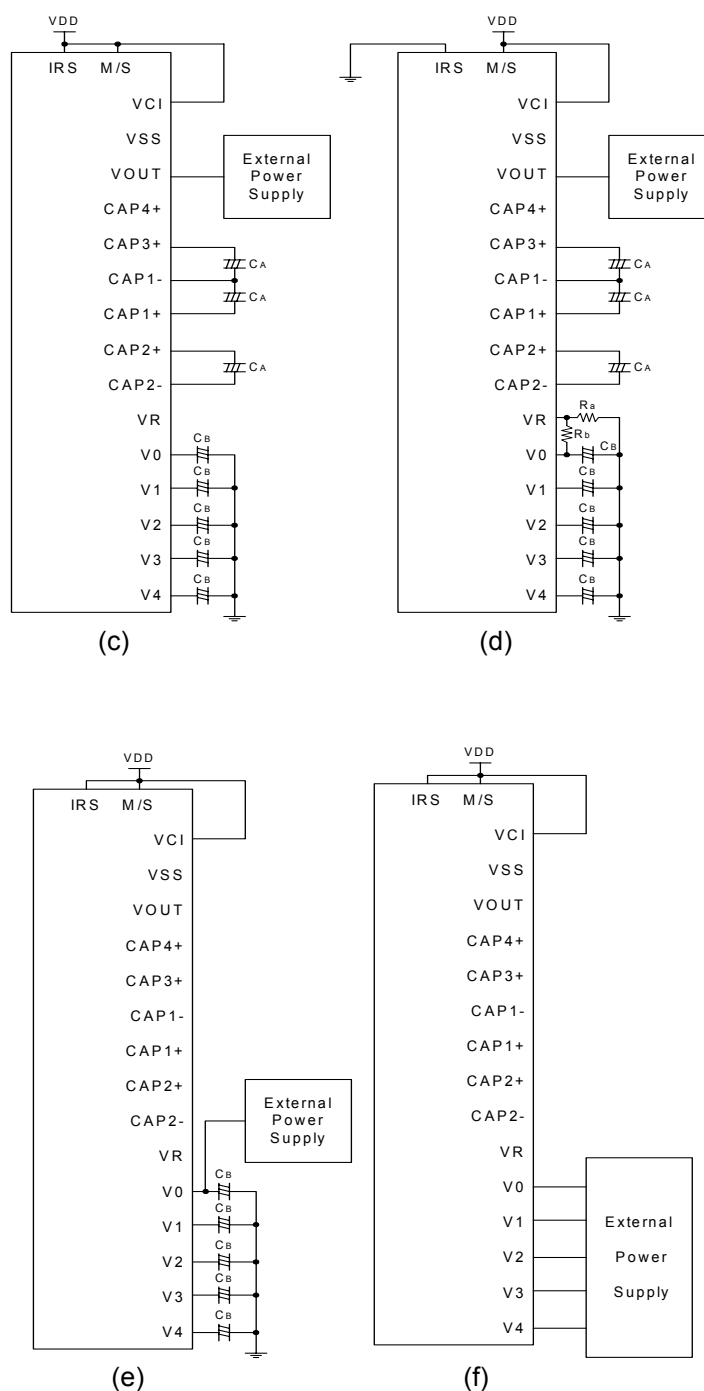

Fig. 11-(c-f) Reference Circuit Examples
Figure 11 shows the reference circuit examples:
1. When all of the step-up circuit, voltage regulating circuit, V/F circuit, and the voltage regulator internal resistor are used, as shown in Fig 11-(a).
2. When all of the step-up circuit, voltage regulating circuit, V/F circuit, and the voltage regulator internal resistor are not used, as shown in Fig 11-(b).
3. When the voltage regulator circuit, V/F circuit and the V0 voltage regulator internal resistor are used, as shown in Fig 11-(c).
4. When the voltage regulator circuit and V/F circuit are used, and the V0 voltage regulator internal resistor is not used, as shown in Fig 11-(d).
5. When the V/F circuit is used, as shown in Fig 11-(e).
6. When any internal LCD power supply circuit is not used, as shown in Fig 11-(f).